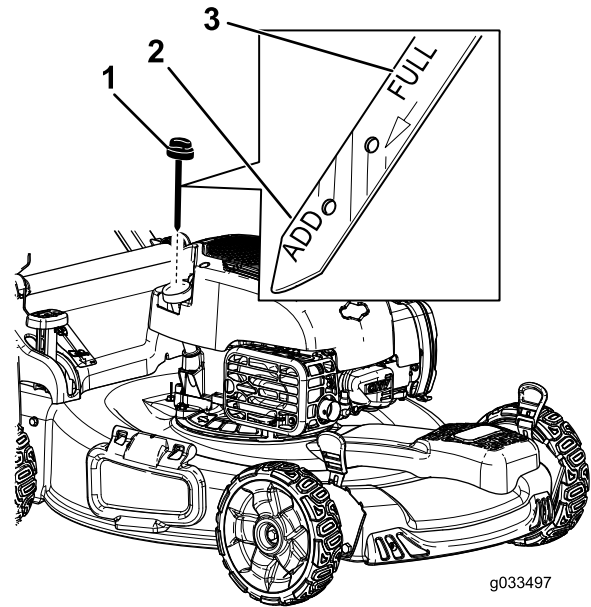

Figure 8
2. Remove the dipstick (Figure 8) and pour about 3/4 of the crankcase capacity of oil into the oil-fill tube.
5. Remove the dipstick and read the oil level on the dipstick; refer to Figure 8.